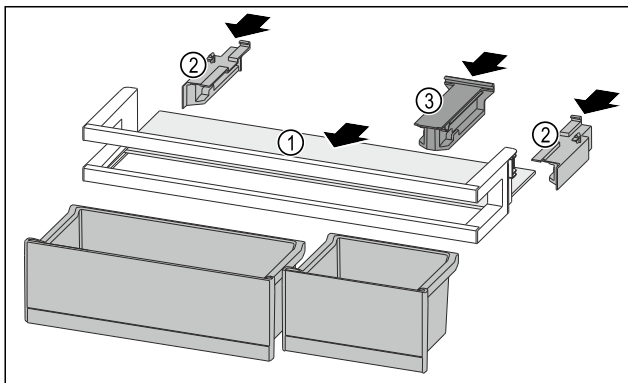

Fig. 245
- ▶ Push the shelf Fig. 245 (1) into the side recesses.
- ▶ Insert the side parts Fig. 245 (2).
- ▶ Insert the holding part Fig. 245 (3).